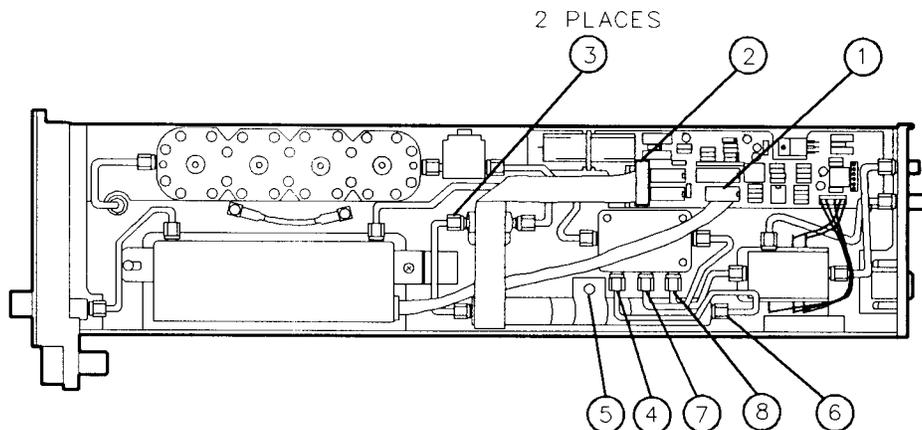

Figure 6-14. A15 2.9 GHz Low Pass Filter Replacement
3. Disconnect the A8W1 cable assembly (not shown) from J1 of the A1 Miscellaneous Bias board (1). See Figure 6-14.
4. Disconnect the W15 cable assembly from J3 of the A1 Miscellaneous Bias board (2).
5. Remove the W5 semirigid cable from the A9 Limiter and the A15 2.9 GHz Low Pass Filter (3).
6. Remove the W17 semirigid cable from the RF port (4) of the A11 First Converter.
7. Remove the W6 semirigid cable from the IF IN port (7) of the A11 First Converter.
9. Remove the screw and bracket from the body of the A15 2.9 GHz Low Pass Filter (5).
11. Remove the W17 semirigid cable from the A15 2.9 GHz Low Pass Filter (6).